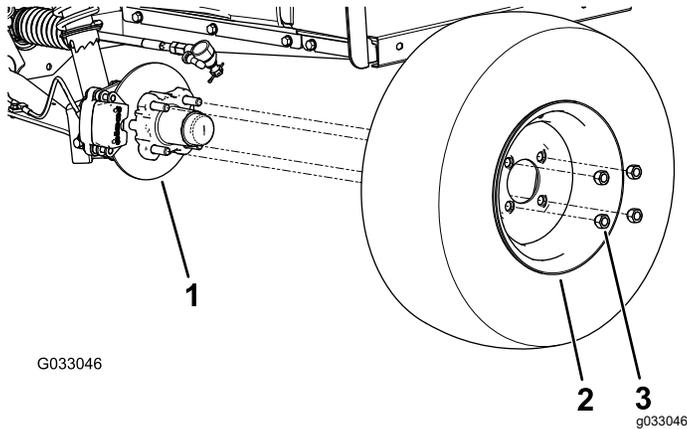

Figure 26
2. Remove the 4 lug nuts that secure the wheel to the hub (Figure 26).
4. Align the holes in the wheel to the studs of the hub and assemble the wheel to the hub with the valve stem outward (Figure 26).
5. Secure the wheel to the hub using the lug nuts (Figure 26).